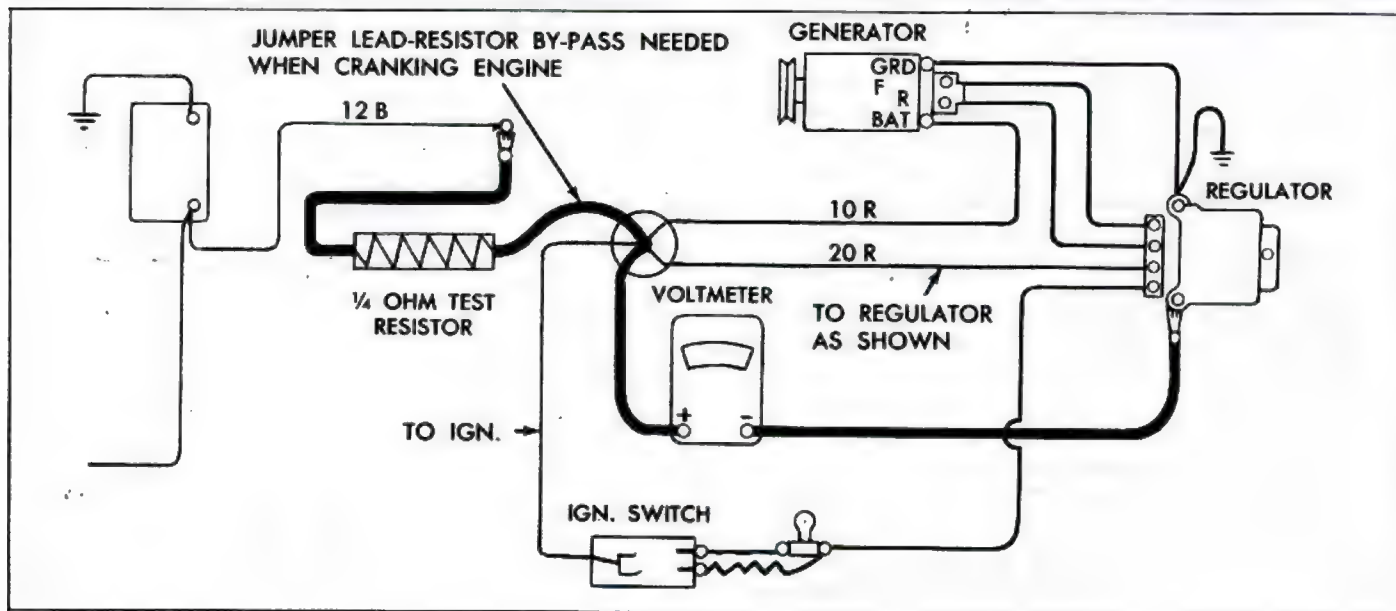

Fig. 5c—Voltage Setting Test Connections
7. Connect a 1/4 ohm-25 watt fixed resistor (purchased commercially) into the charging circuit at junction block as shown in Figure 5c.